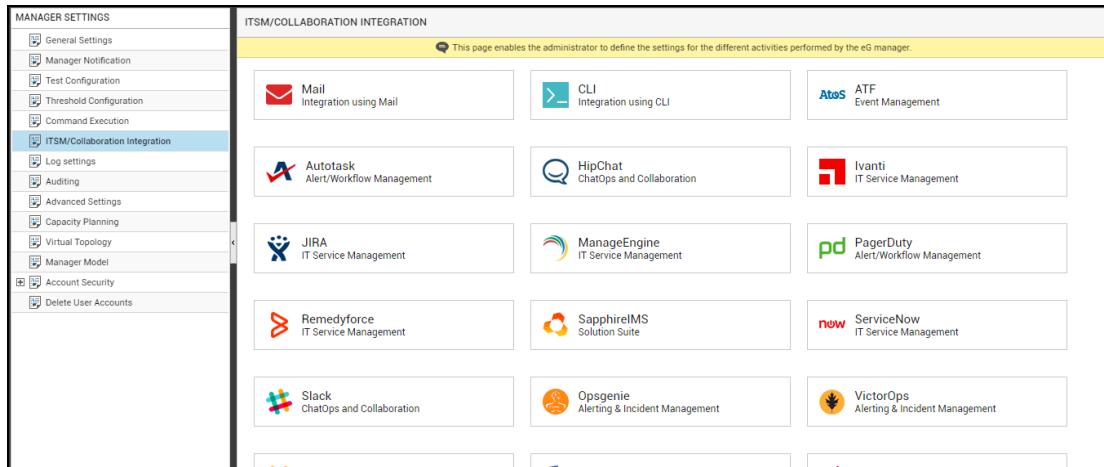
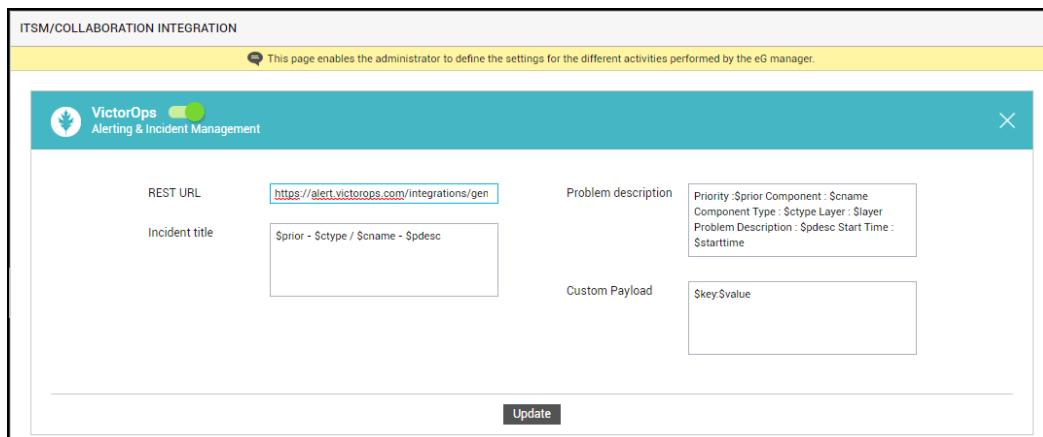

Figure 5.35: Viewing the ITSM/Collaboration tool options
Figure 5.36: Configuring integration with VictorOps
- Figure 5.35 will then appear. From the **MANAGER SETTINGS** tree in the left panel of Figure 5.35, select the **ITSM/Collaboration Integration** node. The third-party ITSM/Collaboration tools that eG Enterprise can integrate with will be listed in the right panel.
- Now, click on the **VictorOps** option in the right panel (see Figure 5.35). A **VictorOps** section will now appear in the right panel (see Figure 5.36).
- To enable integration with VictorOps, first slide the **VictorOps** slider in Figure 5.36 to the right.
- Then, specify the following in Figure 5.36:
7. Finally, click the **Update** button in Figure 5.36 to save the changes.